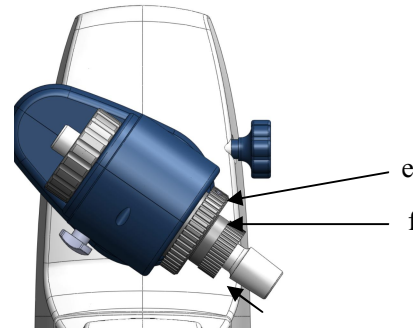

Figure 9
- Open the locking device on the drive head by turning it 60° counter clockwise (e), (Figure 9).
piston ground-in connections (Figure 9).